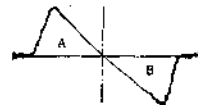

Fig. 3
- Short-circuit the OSC stage as described in Caution 1. Adjust the primary core (lower) of T201 so that the output is like the S curve shown in Fig. 3 with A and B symmetrical with respect to C.